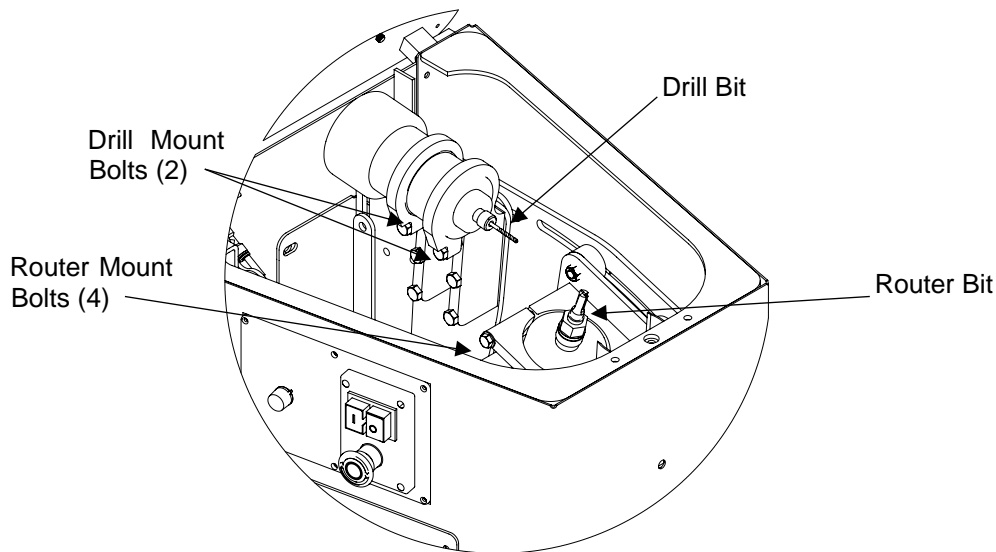

Figure 20: Motor removal (SPM301 shown)
3. Loosen the bolts on the motor mount(s). Router, (Fig 20 or 21), or drill motor, (Fig 20 or 21). For **SPM301 only**, skip to step 7.